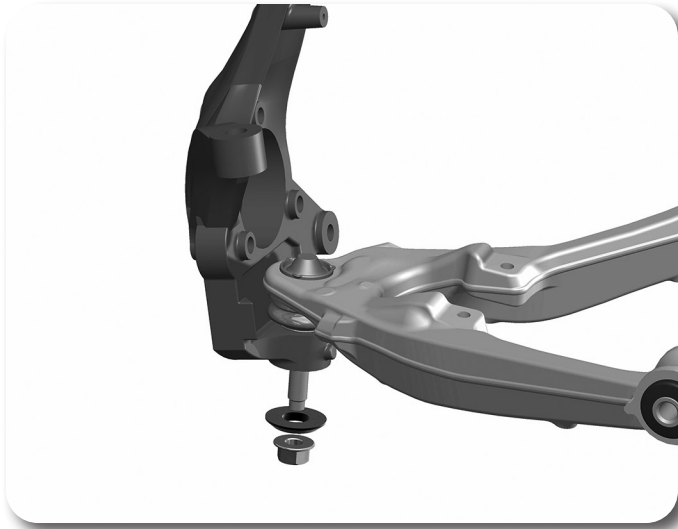

Figure 32 - OE Stamped Steel and Aluminum Control Arms Only
63. Install the assembled knuckle on the lower control arm. Cast **Steel OE Control Arms**: Use the original lower ball joint nut. Stamped Steel and **Aluminum OE Control Arms**: Use the provided lower ball joint spacer as shown in Figure 32 with the factory nut. Failure to do so will not allow the lower balljoint to fully seat.